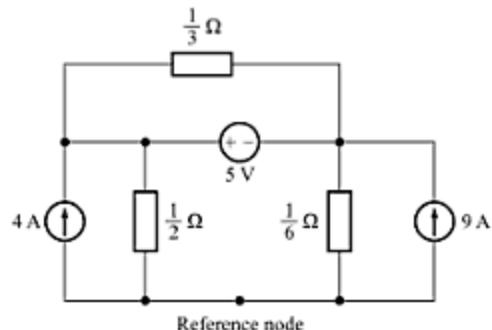

Fig. A-100
- A-64. For the circuit of Fig. A-100, find the voltage across each current source. [Ans. 5.375 V, 0.375 V]